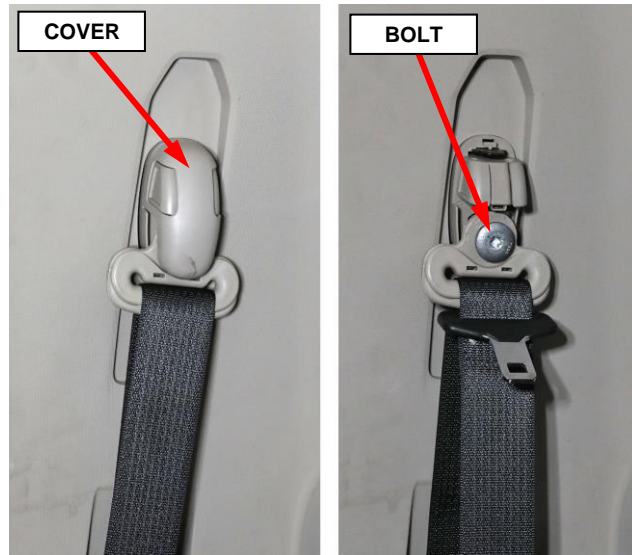

Figure 59 – Seat Belt Turning Loop
7. On the B-pillar, separate the seatbelt turning loop cover then remove the turning loop bolt (Figure 59).